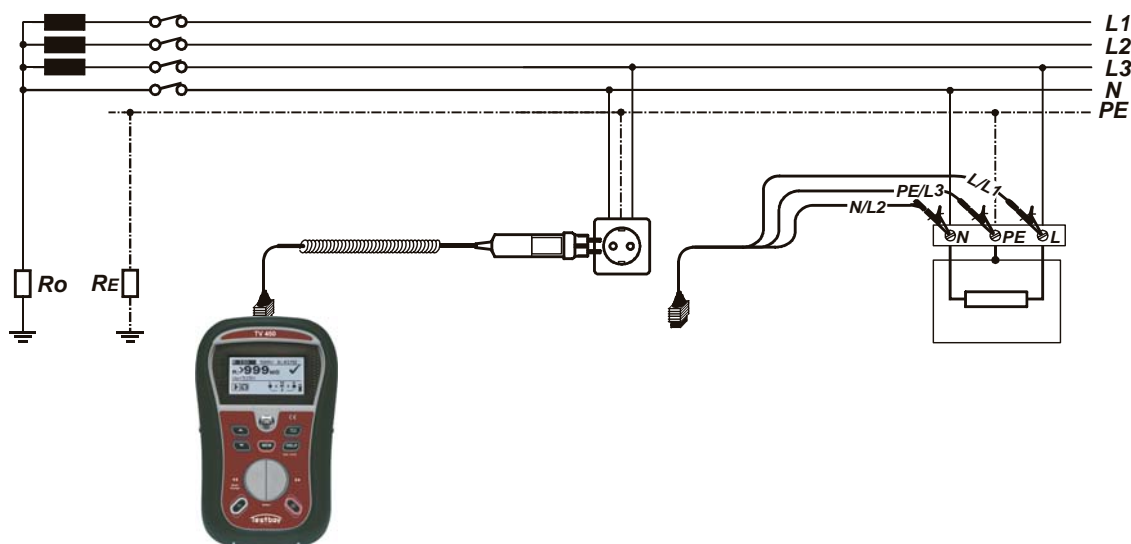

Figure 5.24: Connection of plug cable and 3-wire test lead
- ❑ **Connect** test leads to the the item to be tested (see *figure 5.24 and 5.17*).